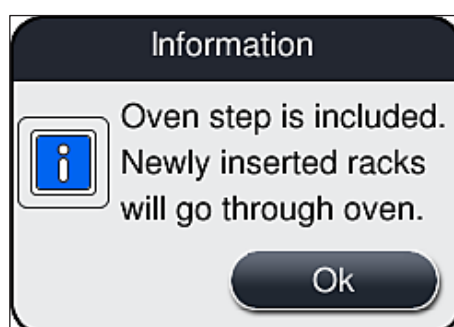

Fig. 38
3. Apply the configuration by pressing the **Save** (→ Fig. 34-5) button and note the subsequent information message (→ Fig. 38) and confirm it with **Ok**.